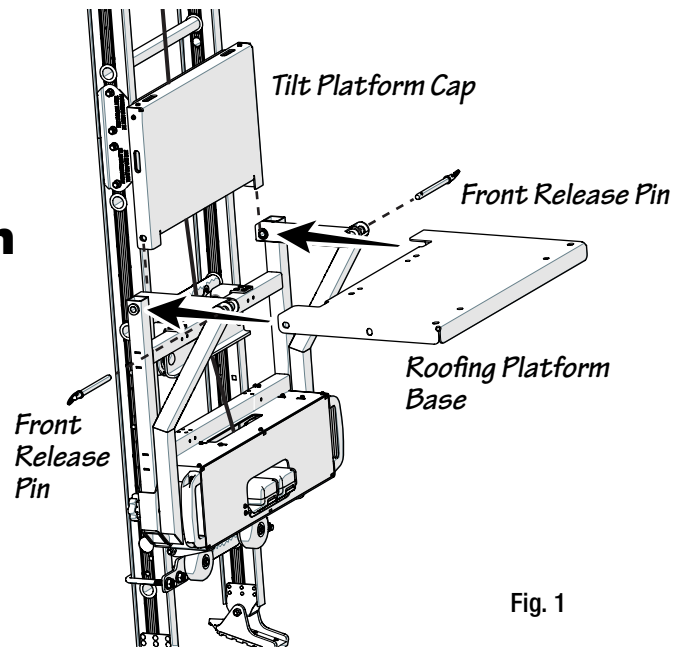

Fig. 1
- Slide/place the roofing platform base over the top of the carriage frame as shown in Fig 1. Align the mounting holes with the base top and carriage frame.
- Insert the **front** quick release pins in both left and right mounting holes as shown in Fig. 1.